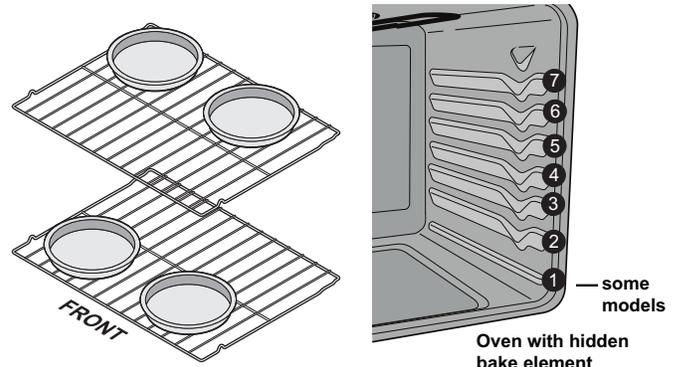

Figure 14: Pan spacing and oven rack positions
- When using 2 oven racks place racks in positions 3 and 5 for and position cookware as shown in Figure 14.